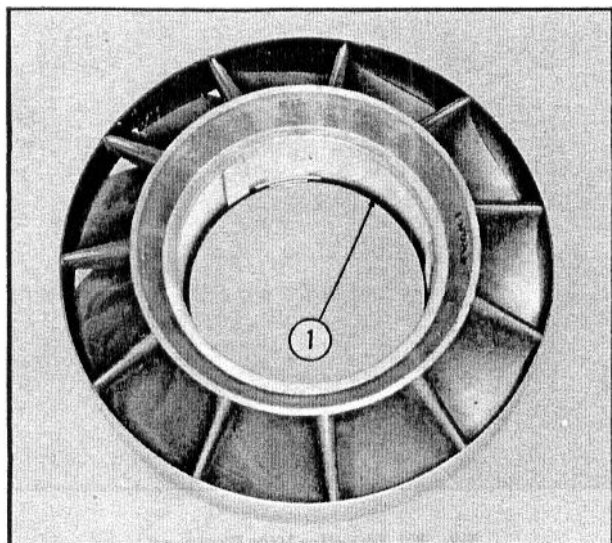

Fig. 9 — Assembling the Stator
4. Install a snap ring in the bottom groove of the stator. See Fig. 9.